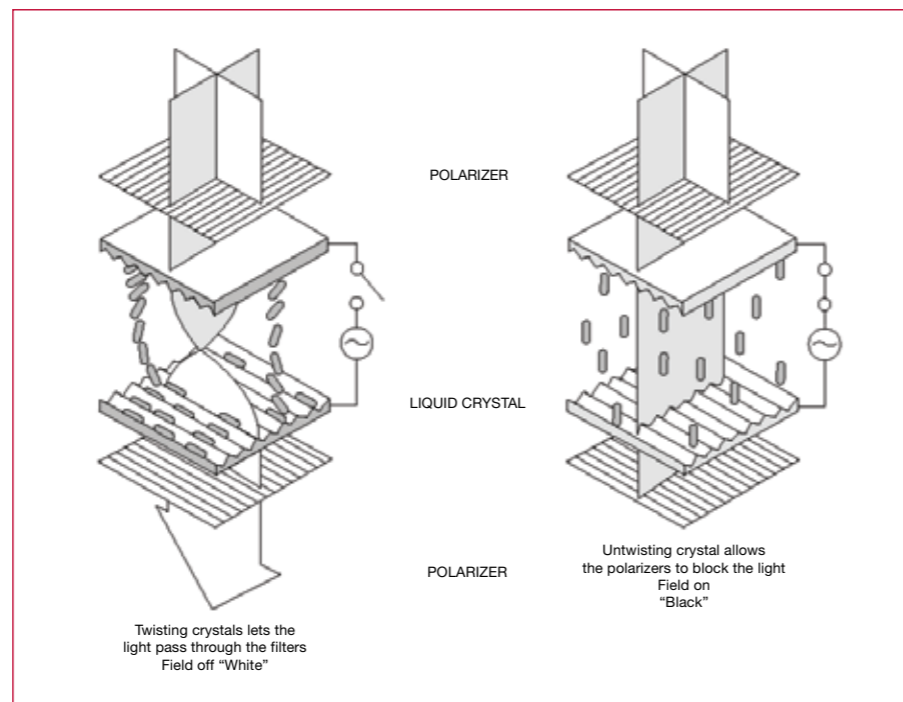

Figure 1: Basic construction of a liquid crystal cell.
Figure 1 shows a twisted nematic (TN) cell, which has a 90° crystal twist. Such a cell is commonly used in active matrix displays and contrasts with the super twisted nematic (STN) cell, which has a twist of 270° and is mainly used in passive matrix displays.